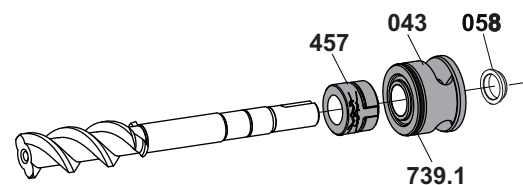

Fig. 11
- Remove L-ring 058, sealing sleeve 043 along with o-ring 739.1 and stationary seal ring of the mechanical seal along with o-ring, see Fig. 11.
- Remove the remaining parts of the mechanical seal 457 from the main screw, see Fig. 11.